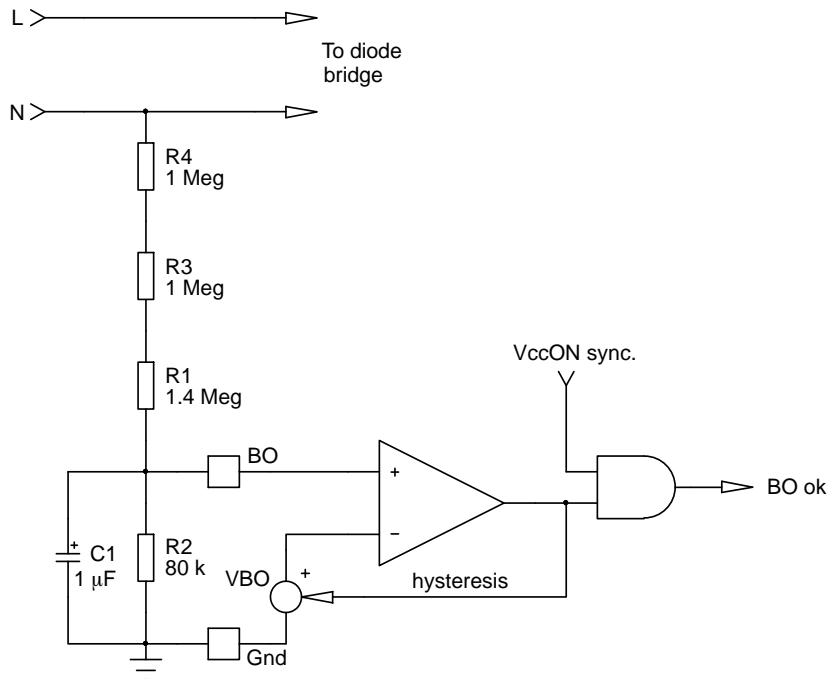

Figure 52. A simple comparator monitors the input voltage via a single pin. When this voltage is too low, the pulses are stopped and the Vcc hiccups.
Brown-out (BO) is a means to protect the converter against an erratic behavior that can occur at the lowest input voltage level. By safely stopping the output pulses when the mains is below a predetermined value, the converter prevents thermal runaway, greatly improving its robustness. Brown-out protection is another way to avoid an erratic hiccup mode when too low of an input voltage limits the power delivery. Some applications, such as printer power supplies, forbid this kind of operations and impose a clean stop. In that case, brown-out detection/protection is the way to go. Figure 52 shows a simplified implementation in the controller.